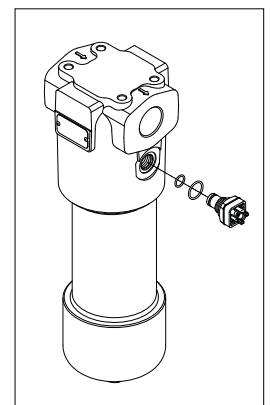

fig. 31
- (Fig. 31) Replace the O-rings of the indicator body.